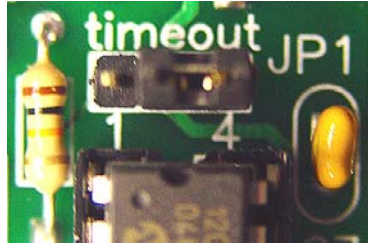

Fig. 1
2. Adjust the duration set control to the desired timeout period. Fully counter-clockwise is approximately 3 (5) seconds, mid-setting is 30 seconds (2 min), and fully clockwise is approximately 60 seconds (approximately 4 min.). You may set the control to any position desired. Note that after the adjustment is made it is recommended that the audio input be momentarily turned off and back on to reset the microprocessor. This is true any time the duration set adjustment is changed. The red LED will signify when the timeout period has been reached.
3. The Silence Sense Jr. is supplied set for a 4 minute maximum timeout period as a default value unless otherwise requested at the time of order. To set the unit to one minute, remove the 4 rubber feet that are hiding the access screws on the bottom of the cabinet. Remove the top cover and locate the "Timeout" jumper, J1, and move it to the "1" position. See figure 1 below.